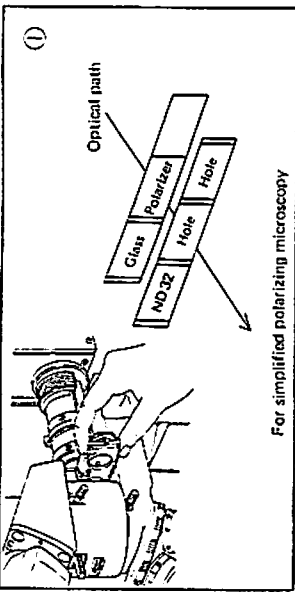

Fig. 6-1
(1) In the case of simplified polarizing observation, push the polarizer slider leftward in together with the accompanied ND slider, so that the position of polarizer coincides with the empty hole in the ND filter slider. (Fig. 6-1)